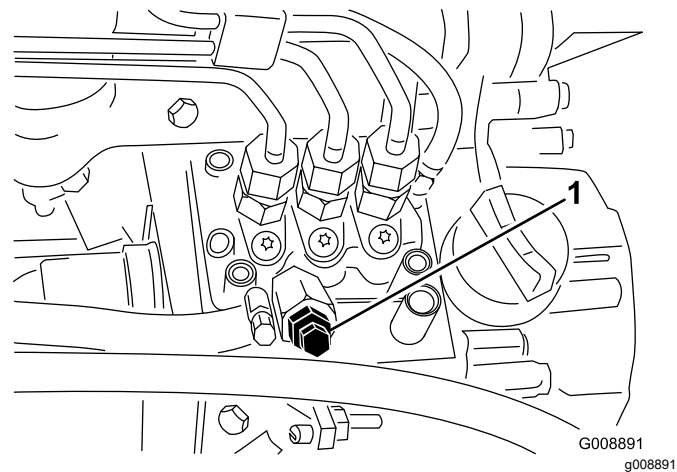

Figure 35
4. Open the air-bleed screw on the fuel-injection pump (Figure 35).